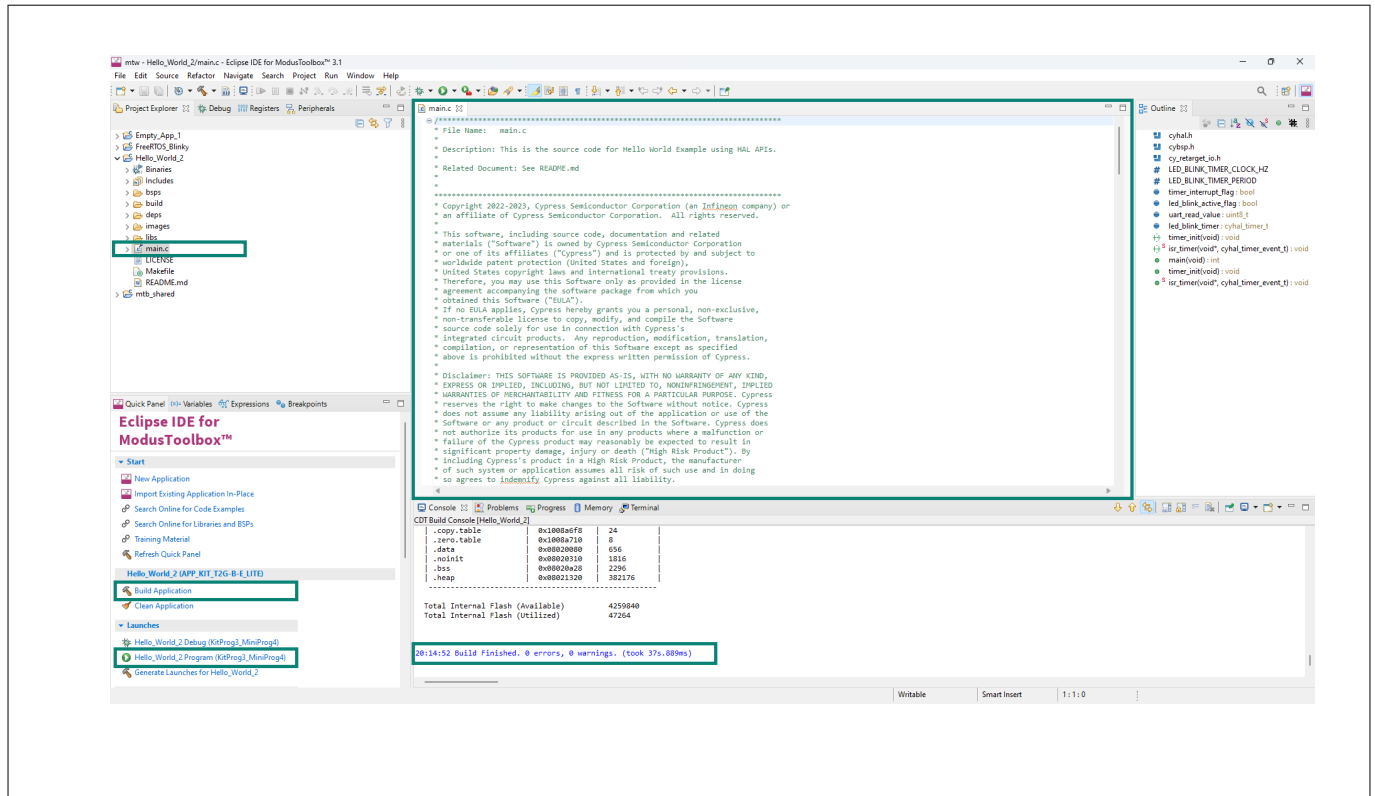

Figure 11 Building and then programming the LED Blink code
- Once the project is created successfully, go to the “Project Explorer” and expand the **Hello_World** project and see the *main.c* file (as shown in Figure 11)